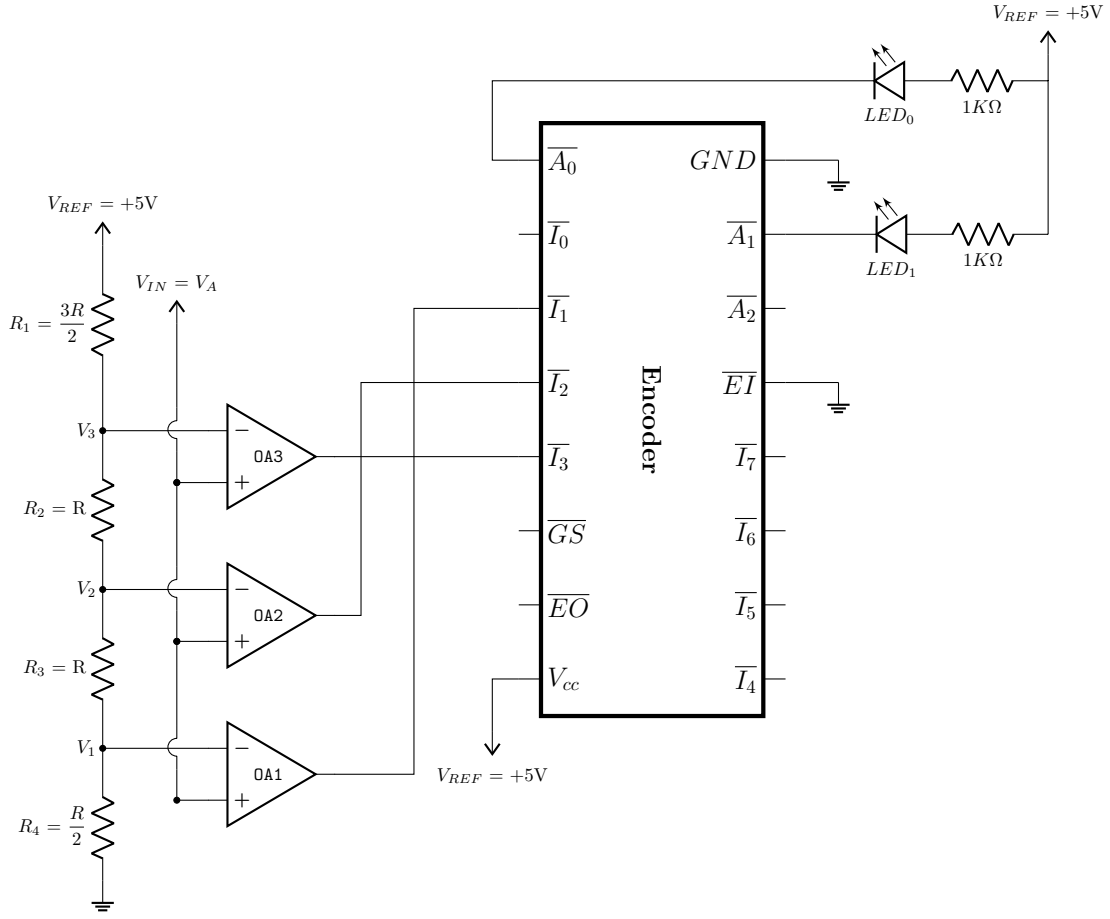

Figure 1: Flash Analog to Digital Converter (ADC)
Flash ADC is the fastest analog-to-digital converter. You can see the circuit diagram of a 2-bit flash ADC in figure 1. All the op-amps operate as comparator in this circuit. The analog input (V_A) is applied to the 'non-inverting' input of the three op-amps.
1. Construct the circuit as shown in figure 1. Consider, $R = 10\text{ K}\Omega$.